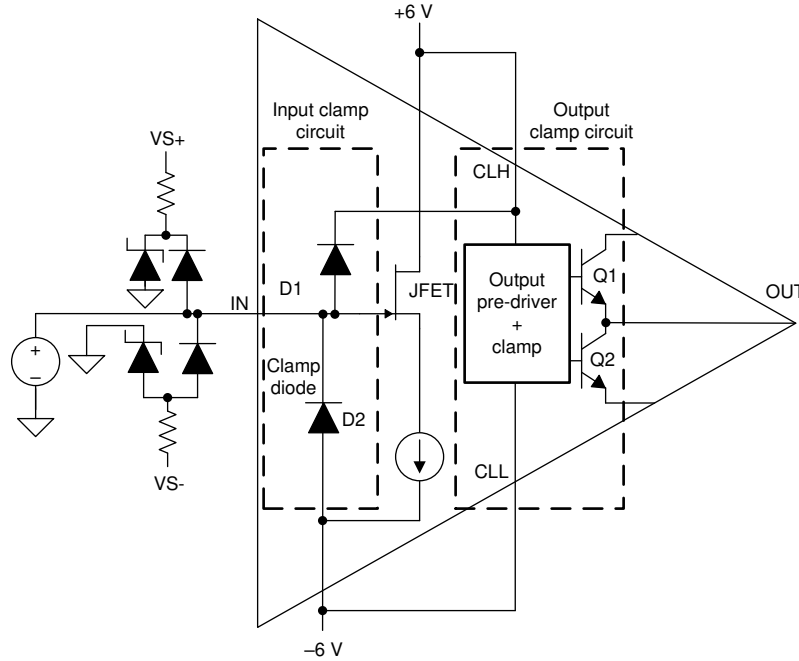

图 8-3. External Input Clamp Circuit
- 图 8-3 shows how the external clamping diodes can be used in cases where the 100 mA current rating of D1 and D2 is insufficient. When using external clamping, disable the internal protection of the BUF802 by connecting CLH and CLL to V_{S+} and V_{S-} .
- As shown in 图 8-3, the internal clamps can be disabled by connecting CLH and CLL to V_{S+} and V_{S-} respectively. When the clamps are disabled, the maximum output swing is limited by the output swing specification described in 节 6.5. The response time and accuracy of the output clamp is shown in 节 6.7.